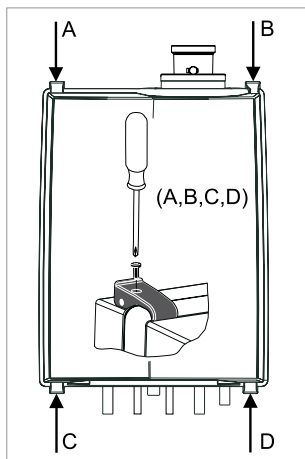

Figure 13
- remove the screws from the 4 quick fasteners A, B, C and D (see fig. 13);